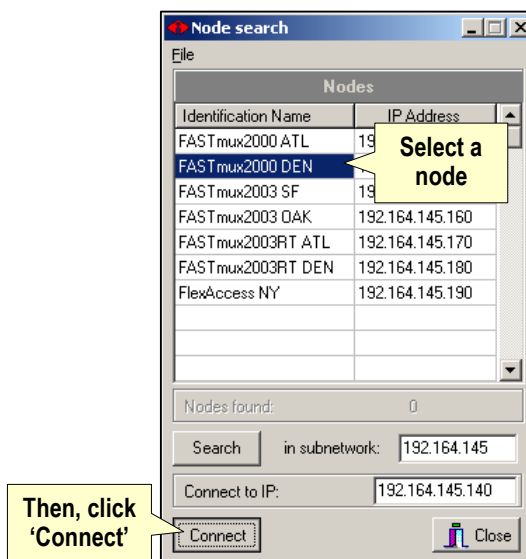

Figure 14 – Node search window (nodes listed)
- 3 The **Node search** window appears with available nodes listed (Figure 14).
- 5 Click **Connect** (Figure 14).